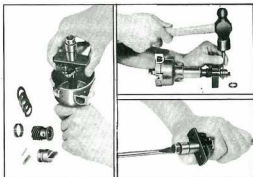
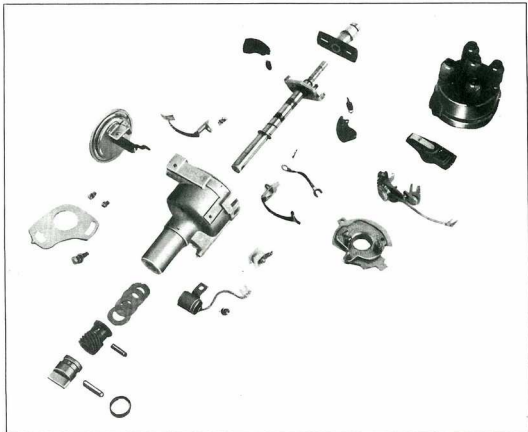

Fig. EE-92 Disassembly of Coupling Shaft and Cam
Fig. EE-93 Exploded View of Distributor
- (5) Pull roll pin and disconnect coupling to pull out whole rotation part. However before pulling out, put counter mark on coupling and shaft or remember well relation between coupling direction and setting groove of cam rotor head. (Fig. EE-92).
- (6) When cam is disconnected, take off set screw first since shaft head is fastened by screw to hold cam down. In this case also, put counter mark on cam and shaft or remember well the relation with ignition timing.
- (7) When governor weight and spring are disconnected, be careful not to stretch or deform the governor spring. When disassembly is completed, apply grease to weight pivot.
- (8) Fig. EE-93 shows complete disassembly.